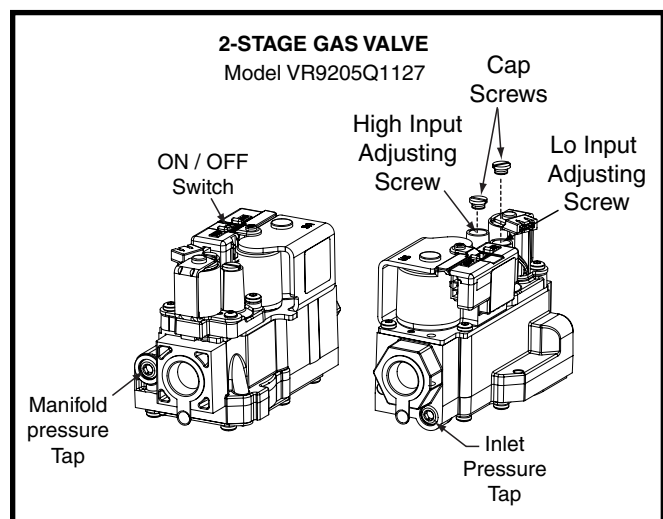

Figure 7. Regulator Capscrew & Tap Locations
4. Place the gas valve ON/OFF switch to the ON position. See Figure 7 \(page 20\).
2. Using a 3/16" Allen wrench, remove the plug from the inlet pressure tap (INLET side of gas valve). See Figure 7 \(page 20\).
3. Using a 3/16" Allen wrench, remove the manifold pressure tap plug located on the outlet side of the gas valve (Figure 7).
1. Remove the cap screw from the top of the gas valve regulator (Figure 7).